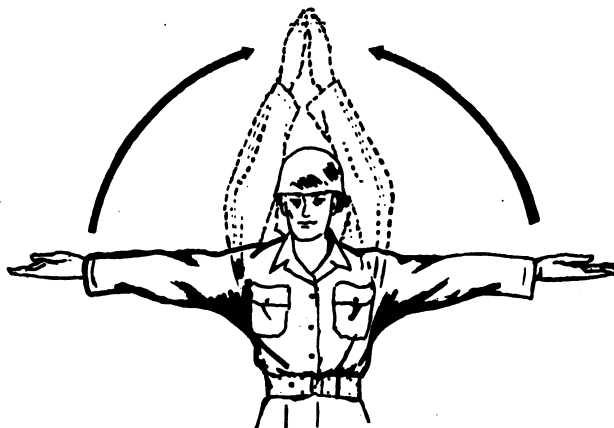

Figure 6. Move upwards.
f. To indicate move upwards, extend arms sideways, horizontally, with palms upward, beckoning upwards by moving arms to above the head (fig. 6).